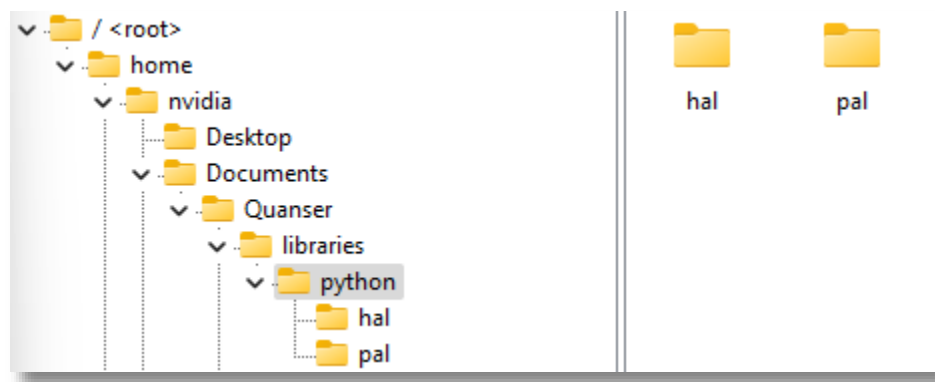

Figure 2. 'hal' and 'pal' folder in correct directory
- b. navigate to "~\Documents\Quanser\libraries\python" on QBot as shown in Figure 2, create these directories if they don't exist. Copy over the "hal" and "pal" folder from your local Windows machine, replacing existing files on QBot.